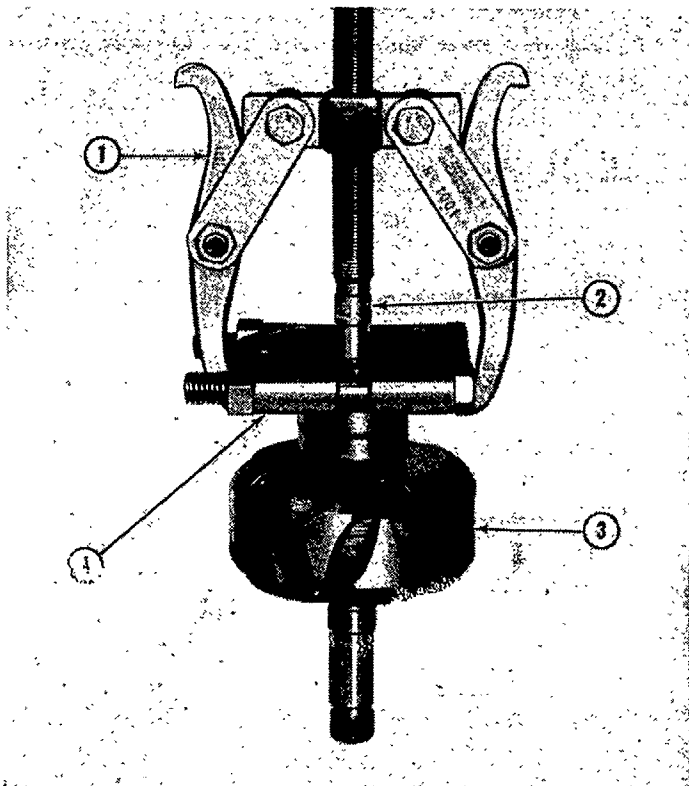

Figure 55
7. Using the tools shown in Figure 55, pull the rear bearing from the rotor. If the bearing is to be re-used, the pulling attachment must contact the inner race only.